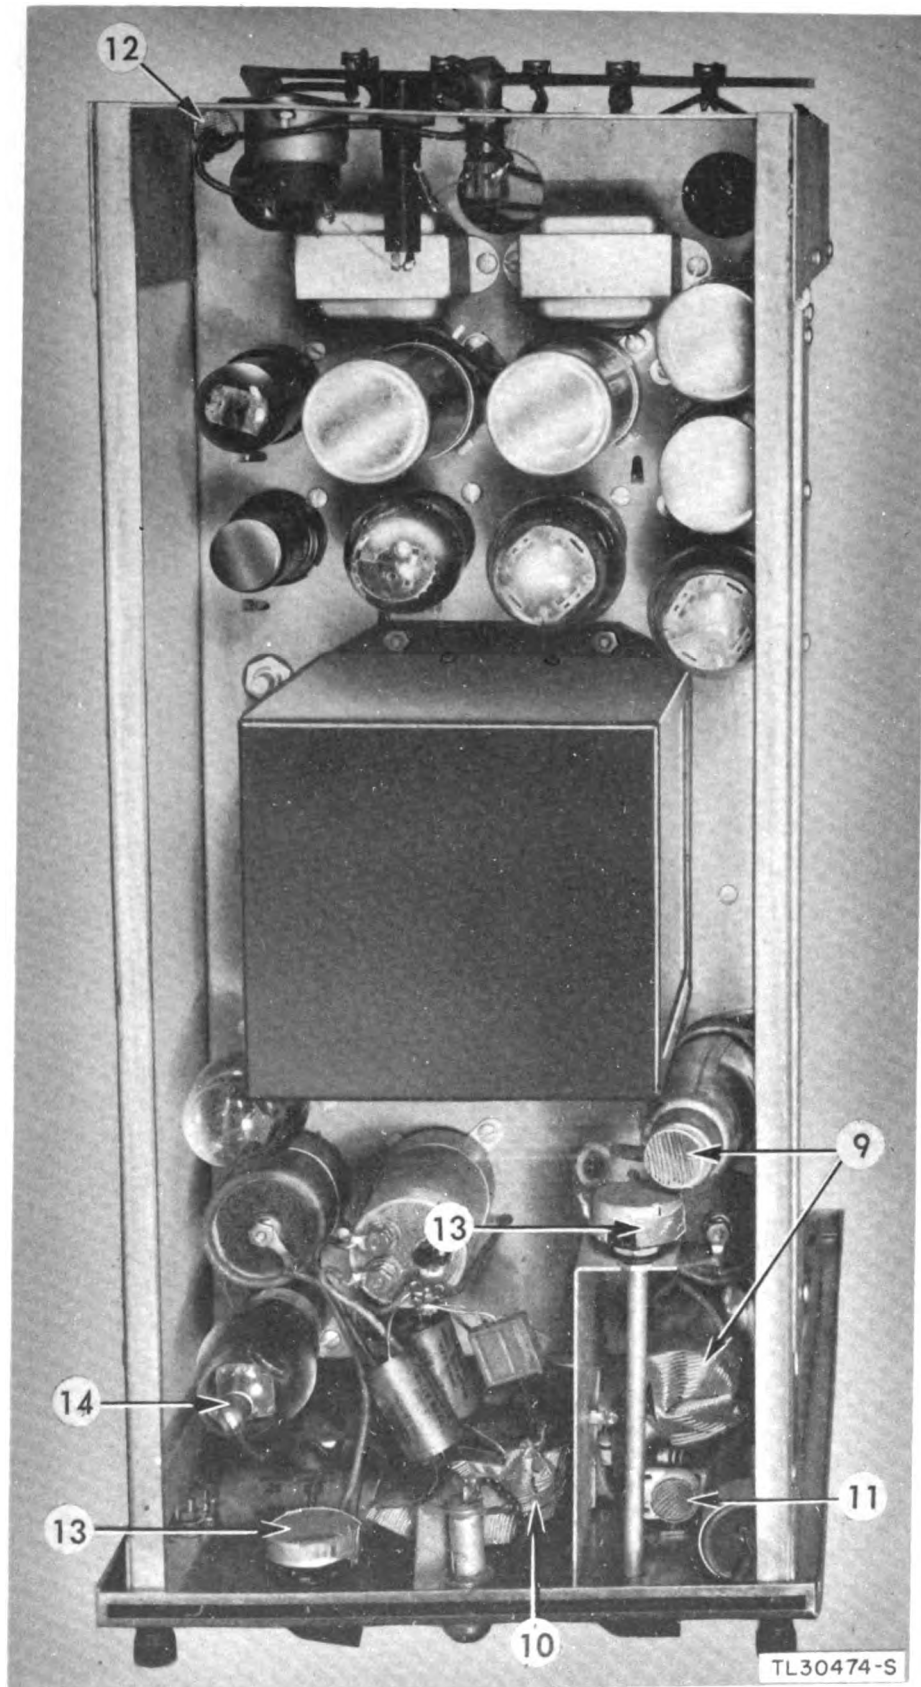

Figure 7. Bottom of chassis masked.
(2) Mask the following parts on the under side of the chassis (fig. 7).